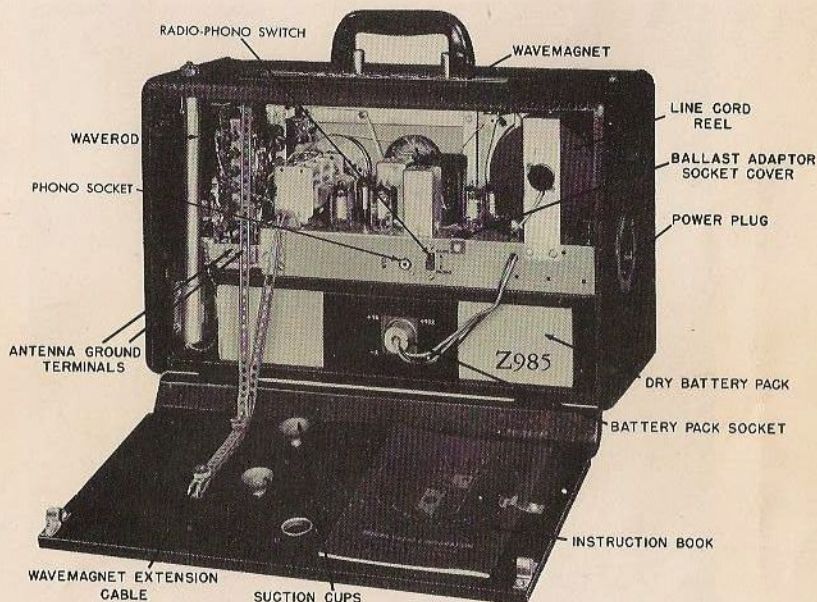

Figure 1.—Rear View, Back Cover Open.
1. Free the wavemagnet cable by turning off the thumb screws which hold the cable to the cabinet back. (See Fig. 1.)